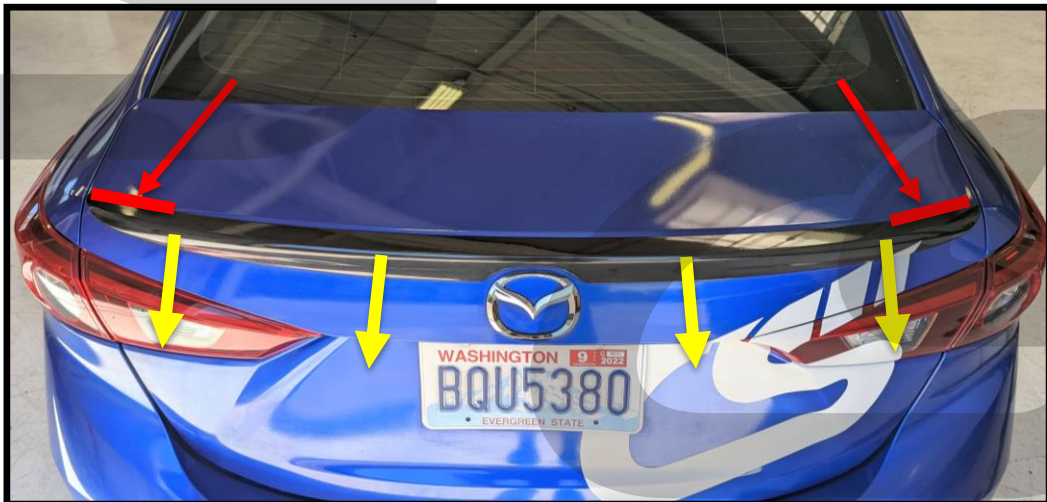

Figure 1d
- f) Remove the lip by pulling away from the trunk as shown in **Figure 1d**.
NOTE There is approximately 8in of double sided tape on the top edge of each side of the lip and is shown with red arrows in **Figure 1d**. This can be released easier if you use a heat gun to warm up the tape before removal.